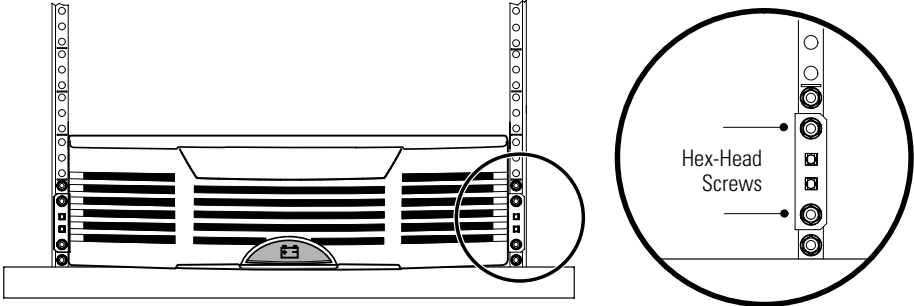

Figure 7. Securing the EBM Mounting Brackets
- 11. Secure the front of the EBM to the rack using two hex-head screws in each mounting bracket as shown in Figure 7.